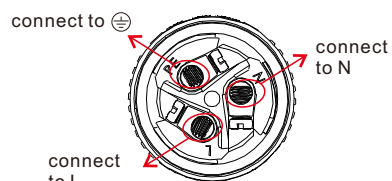

Figure 4.8 Single phase connection
- For single phase inverter installation connect L, N, PE to pin L, N,  $\oplus$  (see figure 4.8).